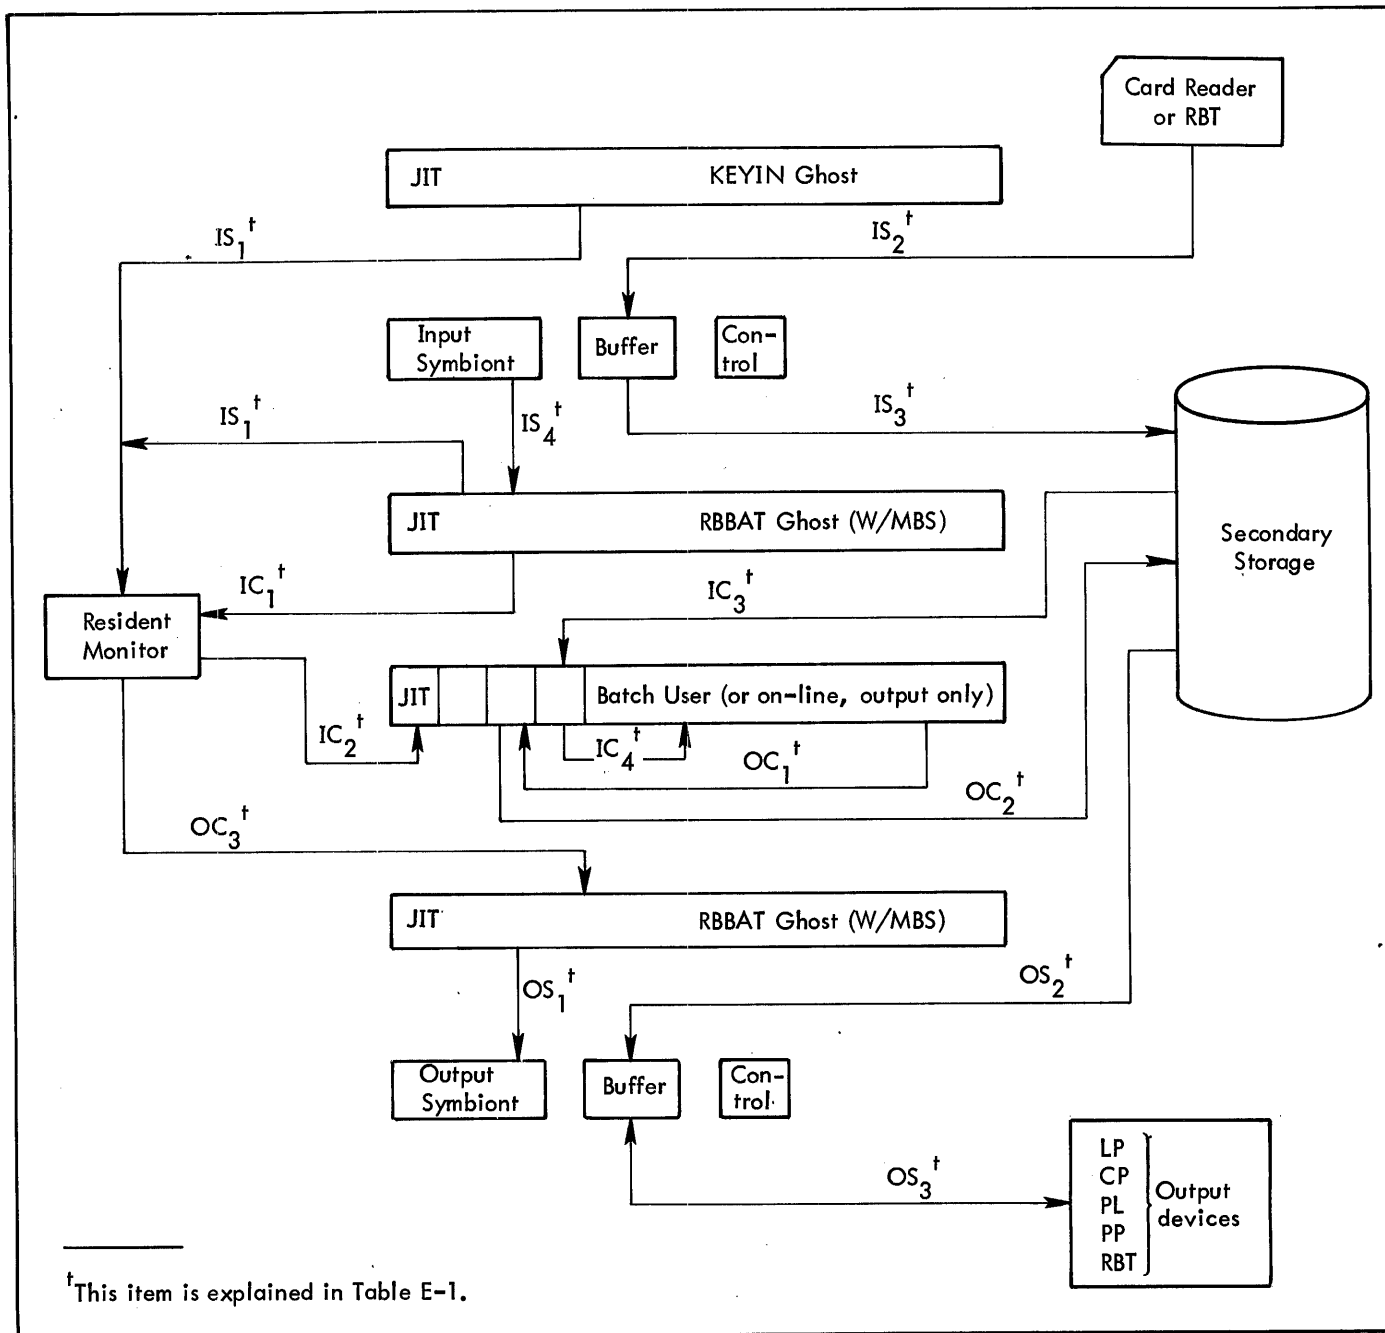

Figure E-1. Information Flow Through Cooperative and Symbionts
information between secondary storage and peripheral devices (see Figure E-1 and Table E-1).
- X'86' = a nonbatch banner. (The record will usually be repeated enough times to fill two print pages.) When the RCC value is X'86' the symbiont file buffer has three additional fields that are not shown in Figure E-1. They are each one byte in length and are: